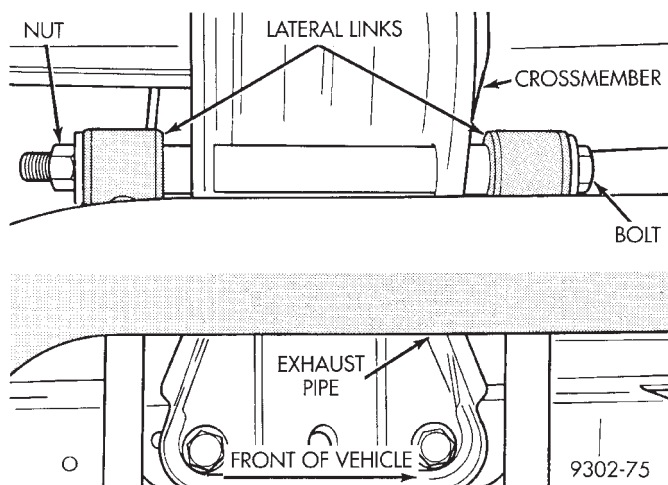

Fig. 3 Left Lateral Links To Crossmember Bolt
(4) Remove the nut and bolt attaching the left lateral links to the rear crossmember (Fig. 3). Remove lateral links from vehicle.